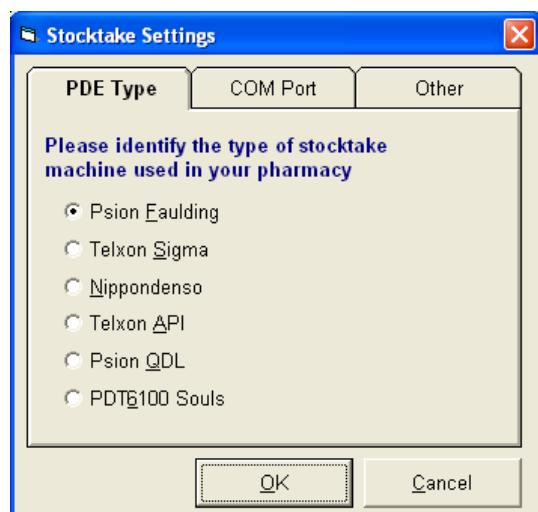

Figure 331
3. Selecting setting will display the 'Stocktake Settings' window (see Figure 331). The first tab displayed is 'PDE Type'.